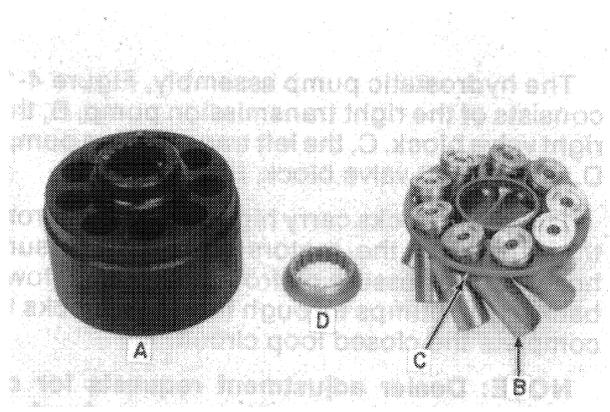

FIGURE 4-5
7. The rotating group parts are shown in Figure 4-5. Lift these parts out of the pump rotating block and carefully lay them on cardboard to avoid damage.